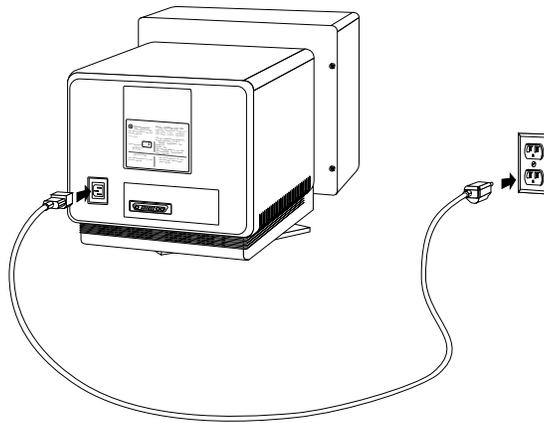

Figure 3-14 Connecting the Secondary Monitor's Power Cable
1. Connect the female end of the power cable to the power connector on the back of the monitor, as shown in Figure 3-14.